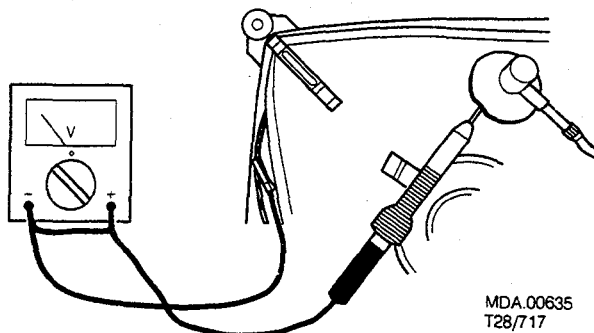

Fig. 1
3. In order to preclude damage to ICs and transistors flashover of the EHT should be avoided. To prevent damage to the picture tube, the method indicated in fig. 1 should be followed in case of discharge. Make use of a high-tension probe and a universal meter (mode DC-V). Discharge until the meter reads 0 Volts (after approx. 30 s).